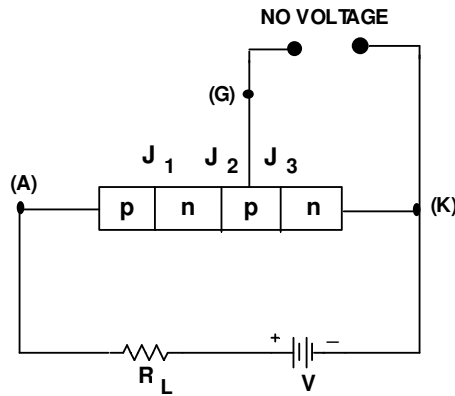

Fig.38.3
**Action of Anode voltage:** An SCR circuit shown in fig.38.3 and 38.4, where anode is made positive with respect to cathode and the gate voltage is kept at zero. With the application of this voltage, the junctions  $J_1$  and  $J_3$  are forward biased, whereas junction  $J_2$  is reverse biased. Hence, the flow of current in the circuit is blocked i.e. the SCR is cut off. However, if anode to cathode voltage  $V$  is increased, a stage is reached when  $J_2$  cannot withstand this high reverse voltage and zener breakdown of junction  $J_2$  occurs and the SCR suddenly switches to highly conducting state. In this state, the load current